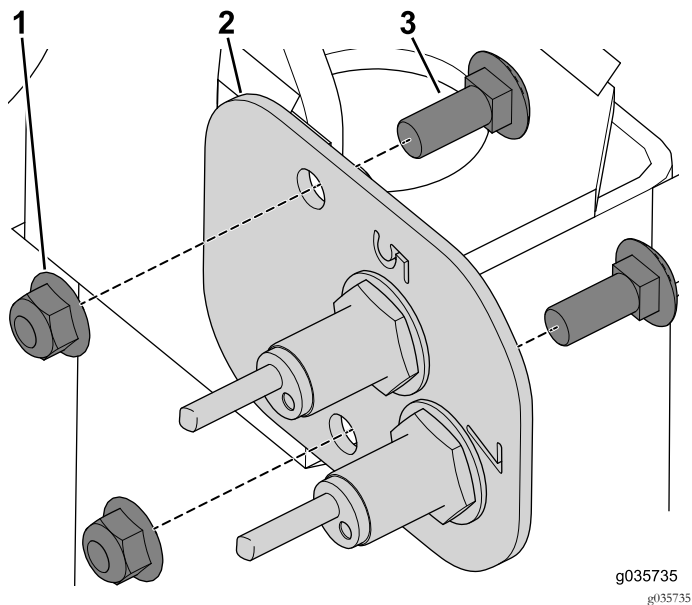

Figure 4
8. Remove the carriage bolts and flange nuts securing the left sensor plate to the frame (Figure 4).